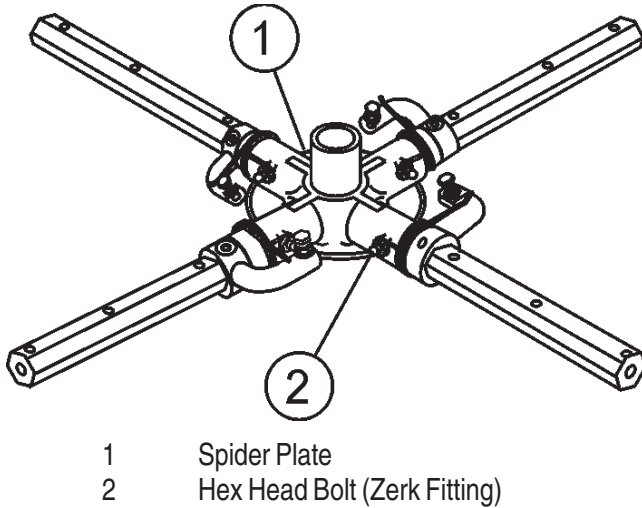

Figure 31. Removing Zerk Grease Fitting
1. Each trowel arm is held in place at the spider plate by a hex head bolt (with zerk grease fitting). Remove the hex head bolt/zerk grease fitting from the spider plate. (Figure 31)